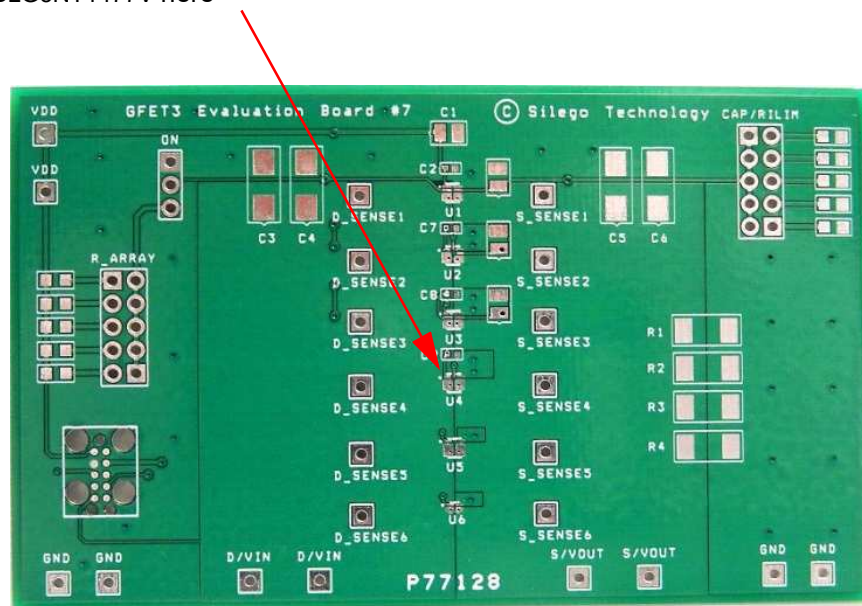

Figure 1. SLG5NT1477V Evaluation Board
2. Since the D and S pins dissipate most of the heat generated during high-load current operation, it is highly recommended to make power traces as short, direct, and wide as possible. A good practice is to make power traces with absolute minimum widths of 15 mils (0.381 mm) per Ampere. A representative layout, shown in Figure 1, illustrates proper techniques for heat to transfer as efficiently as possible out of the device;
A GreenFET Evaluation Board for SLG5NT1477V is designed according to the statements above and is illustrated on Figure 1. Please note that evaluation board has D_Sense and S_Sense pads. They cannot carry high currents and dedicated only for RDS_{ON} evaluation.